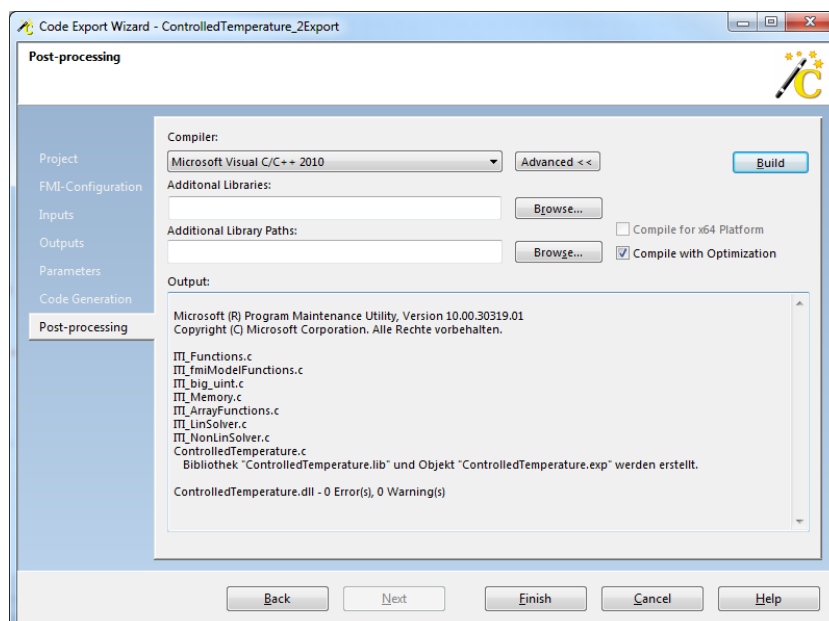

Figure 4: Post-Processing page of Code Export after build process has finished.
14. In the Post-Processing Tab, the actual FMU will be generated. Choose compiler “*Microsoft Visual C/C++ 2010*” and hit “*Built*”. The code will be generated and the output window will show the progress. Two build routines will run since the FMU is supposed to be compatible to both win64 and win32 platforms. After the build process has completed, the output according to Figure 4 will show up. Hit finish.